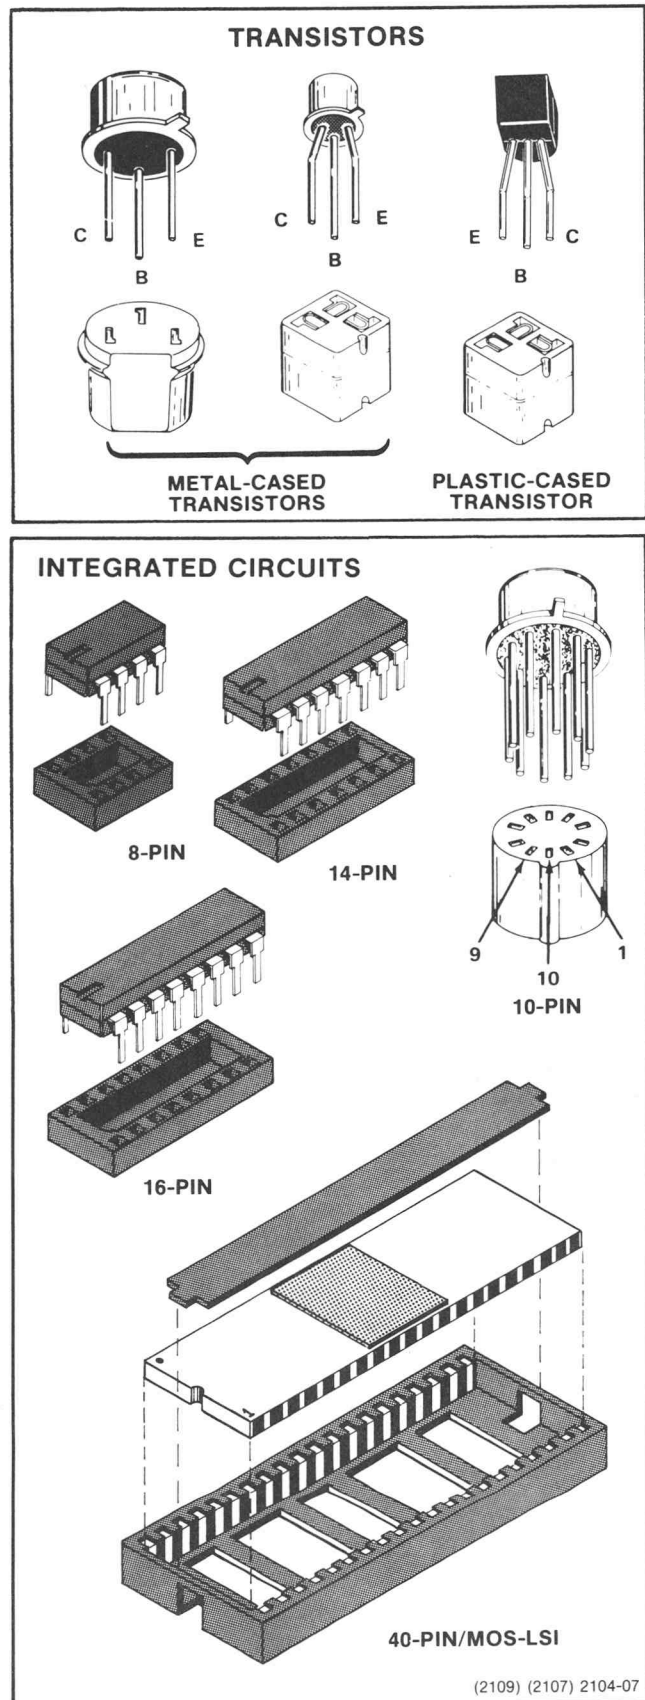

Fig. 6-4. Basing diagram for semiconductors.
Fig. 6-4 illustrates the lead configurations for the socket-mounted transistors and integrated circuits (IC) used on the circuit board.